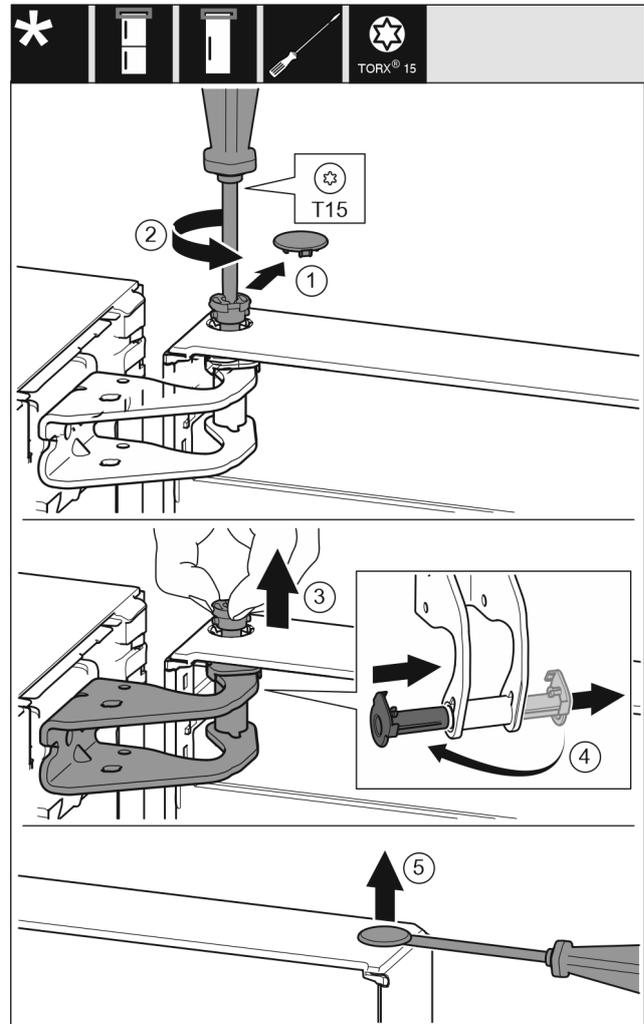

Fig. 13
- ▶ Carefully remove the protective cover. Fig. 13 (1)
- ▶ Undo the bolt a little with a T15 screwdriver. Fig. 13 (2)
- ▶ Hold the door and remove the bolts with your fingers. Fig. 13 (3)
- ▶ Pull the bearing bush out of the guide. Insert from the other side and latch into place. Fig. 13 (4)
- ▶ Carefully lift the plugs out of the door bearing bush with a slotted screwdriver and pull them out. Fig. 13 (5)